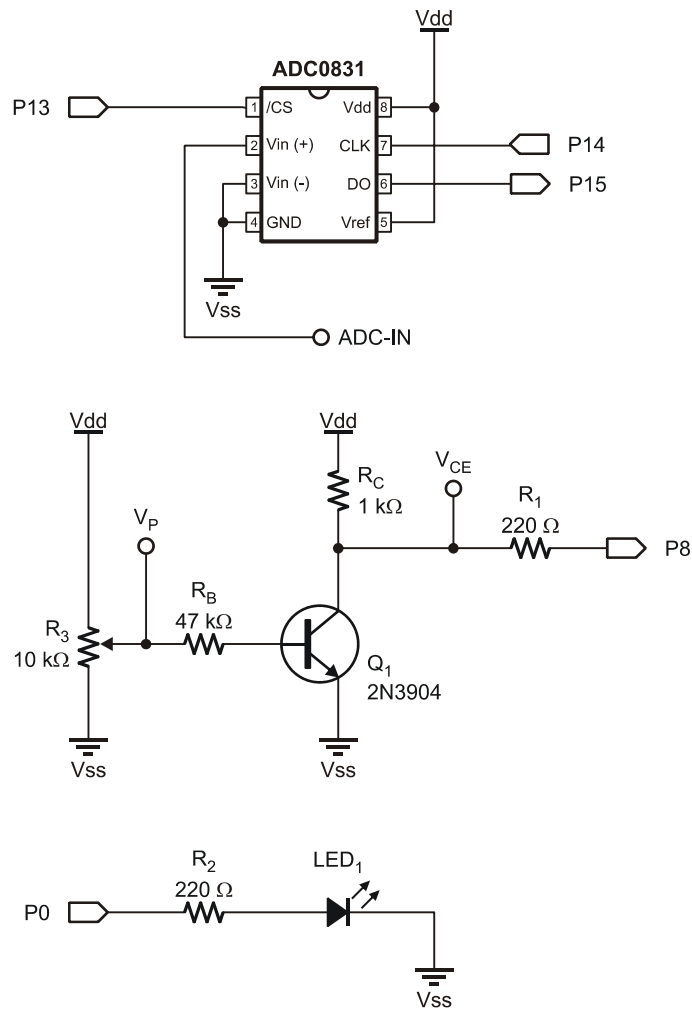
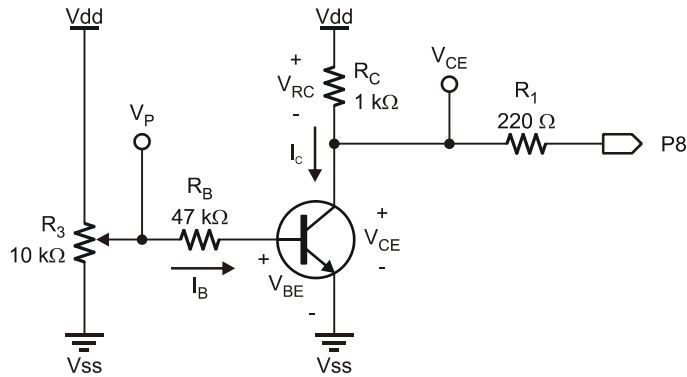

Figure 3-12
Figure 3-13
- (1) LED – Red
- √ Construct the circuit shown in Figure 3-12.
Analyzing what is occurring with reference to Figure 3-13:
(1) Resistor – 10 k Ω
- √ Begin with the circuit from Activity 3, Figure 3-12 with ADC-IN connected to V_{CE} .
Relative to using a $1\text{ k}\Omega$ value for R_C (see Figure 3-12 and Figure 3-13), how much movement does it now take to control the transistor over its full active range? Since I_{SAT} is so much smaller, a much lower value of I_B required for saturation is defined, and thus a much lower value of V_P to reach saturation, which means the potentiometer needs to be rotated a smaller amount.